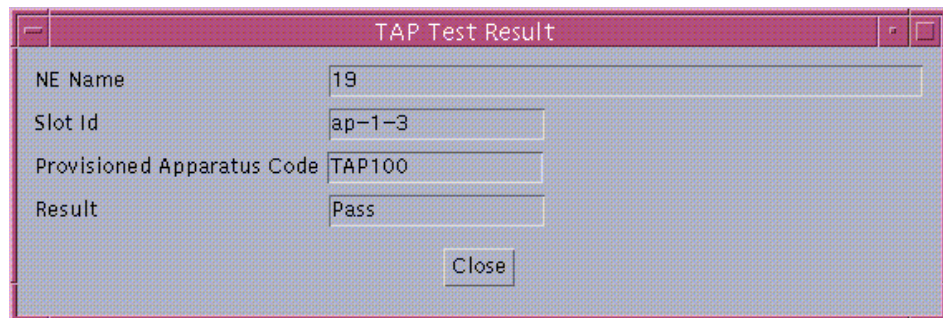

Figure 8-11 TAP Test Result window
- Wait until the *TAP Test Result* window (cf. Figure 8-11, page 8-34) appears and view the test result.